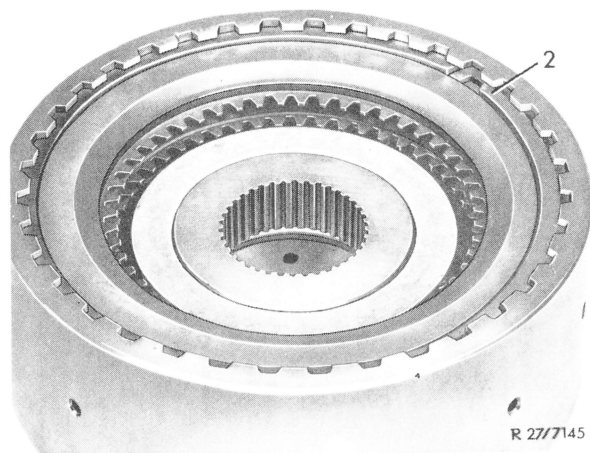

Fig. 1
- 1 Push circlip (2) out of groove with a screw driver and remove (Fig. 1).
16 Insert undulated circlip (2) into groove and push down into groove with screw driver (Fig. 1).